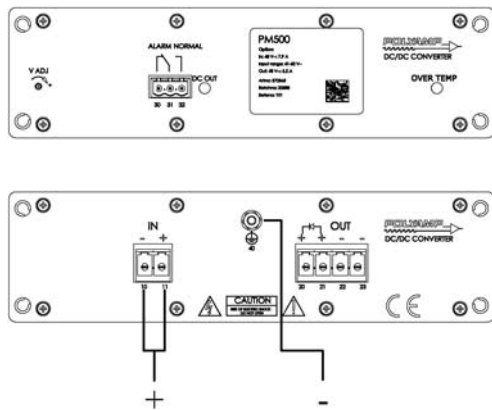

Figure 8. Input to case isolation voltage test.
3. Connect your isolation tester between input and case. See *Figure 8*.